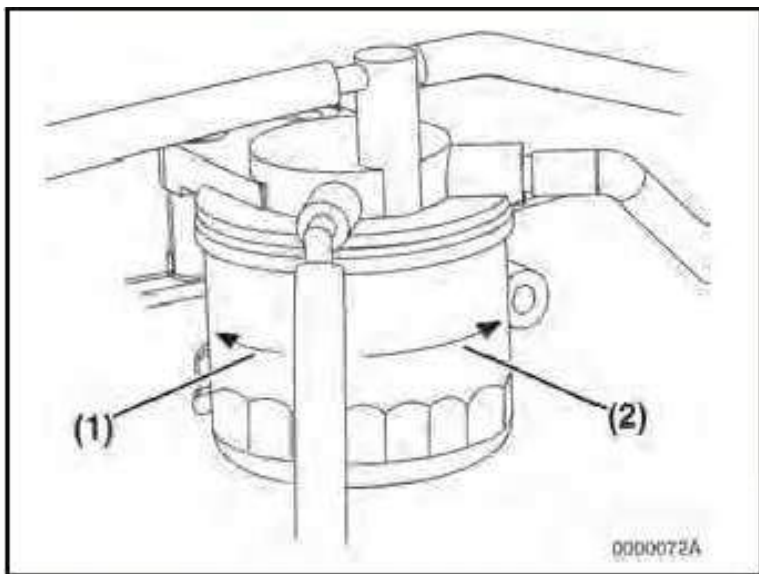

Figure 5-13
3. Remove the fuel filter with a filter wrench, turning it to the left (**Figure 5-13, (1)**). When removing the fuel filter, carefully hold it to prevent the fuel from spilling. Wipe up all spilled fuel.
5. Install the new fuel filter. Turn to the right (**Figure 5-13, (2)**) and hand-tighten it only until it comes in contact with the mounting surface. Tighten to 14-17 ft•lb (19.6-23.5 N•m; 2.0-2.4kgf•m) or one additional turn using the filter wrench.